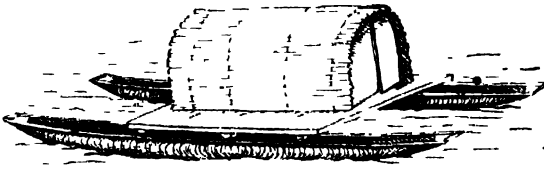

FIG. 6. DOUBLE CANOE USED ON RIVERS IN CEYLON
5. Some of the finest sea-going canoes are found in the Pacific. To gain stability under sail and also great carrying capacity, it was usual in the Pacific islands to form double canoes, two similar craft being lashed close together and parallel by means of beams across the gunwales. Platforms were erected over the space between across the beams, thus forming a deck (see Fig. 6). Some were as much as 70 feet long, and were paddled by large crews, or sailed, the mast being stepped on the platform and between the hulls. Captain Cook observed at Tahiti the great travelling canoes of this type, with thatched cabins: in such canoes the migrations had been made between the islands and New Zealand (see MAORIS and POLYNESIANS, Vol. I). These canoes contained hulls which were plank built. Even more impressive were the war canoes: in 1774 Cook witnessed at Tahiti a naval review of 330 canoes which he estimated carried about 8,000 men.